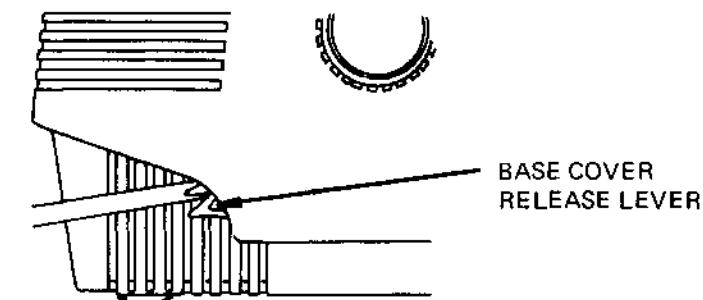

Figure 4-2 Base Cover Lever (Left Side)
- e. Push both the left and right levers on the base cover down using a screwdriver or similar tool (see Figure 4-2).